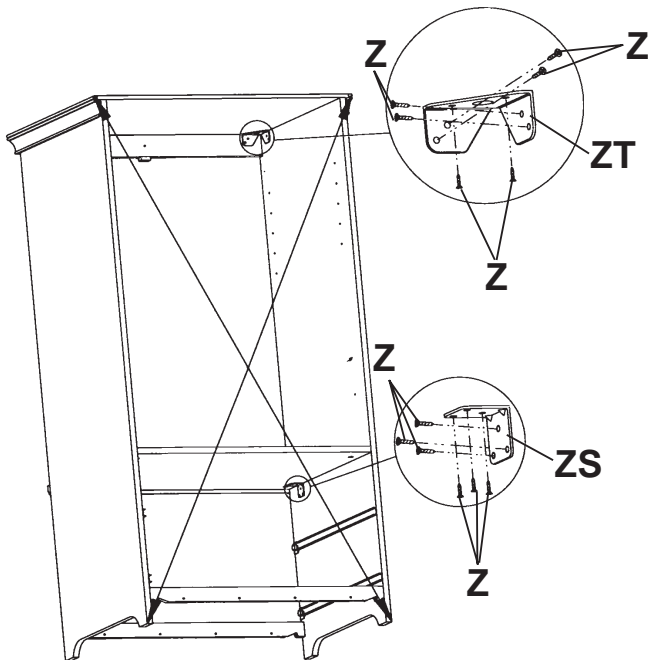

FIG. 5A
- 5) With the unit lying face down, measure from top left to bottom right and from top right to bottom left. If the unit is square, the measurements will be equal. If one is longer, tap the bottom of the side panel on the longer side until equal. See FIGURE 5A.
Attach a Right Angle Bracket (ZS) to each side panel and bottom of center shelf about 1/2" behind the front cam housings. Use #6x5/8" Undercut (type 17) Screws (Z). See FIGURE 5A.
Attach a 3 Sided Bracket (ZT) to each inside front corner with two #6x5/8" Undercut (type 17) Screws (Z) into the crown, top, and each side panel. See FIGURE 5A.